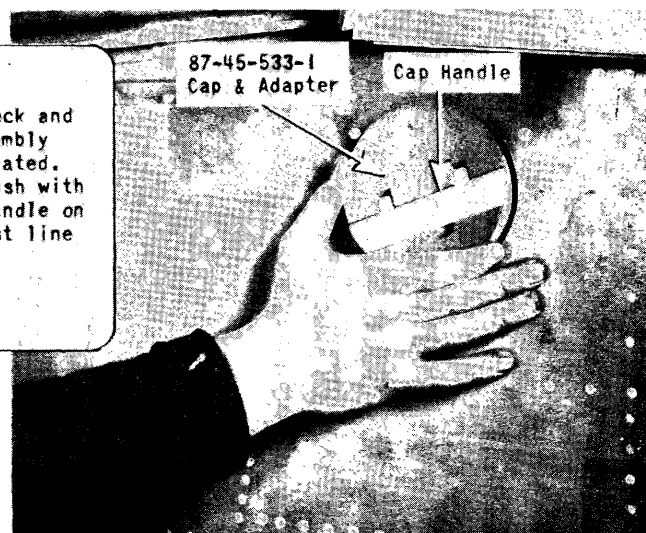

Figure 233 - Installing Cap and Adapter Assembly in Filler Neck
(8) Insert the cap and adapter assembly. (See figure 233.) Push the cap in until it is flush with the fuselage skin and turn the cap handle so that it parallels the line of thrust.